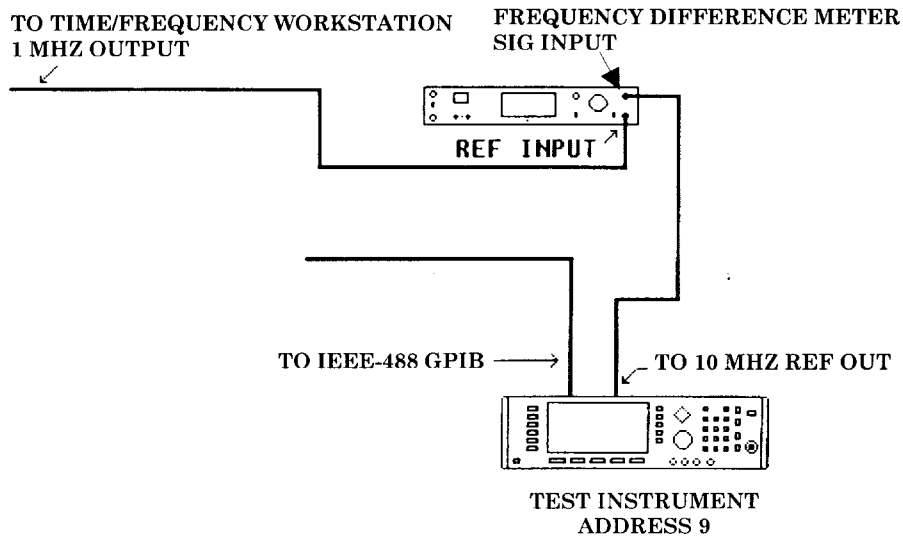

Figure 1. Time base verification connection
- d. Connect equipment as shown in figure 1.